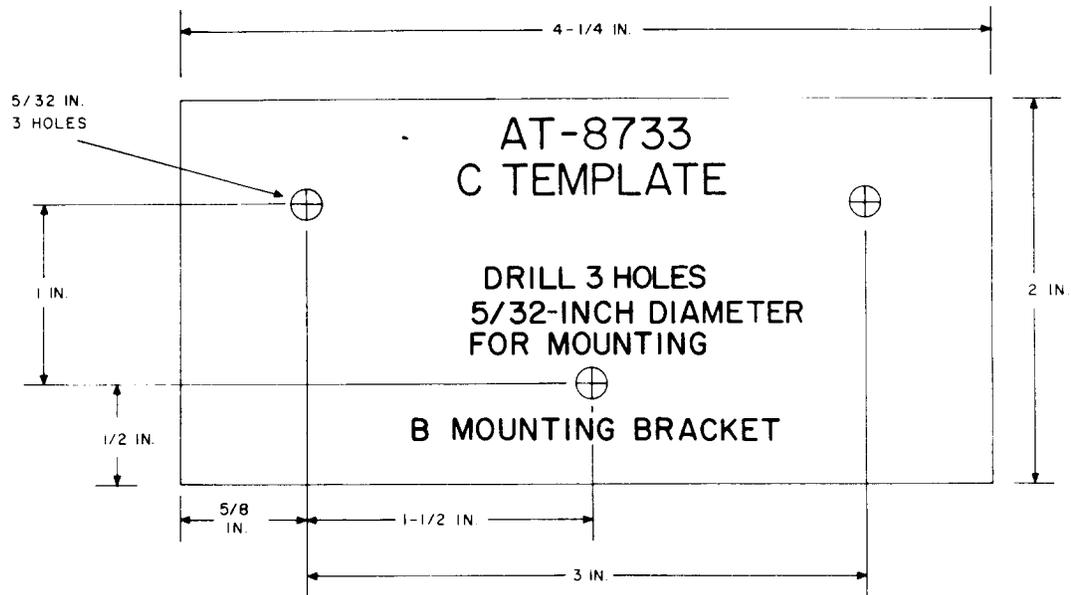

Fig. 17—C Template for Use on a Recreational Vehicle
(k) Template, C (for use on RV, Fig. 17).
2.13 The C template (Fig. 17) is used by the customer to locate the pilot holes on the recreational vehicle for the three thread cutting screws used to mount the B mounting bracket. The template is printed on index card stock and packed separately from the B mounting bracket so that mounting holes may be prepared prior to bracket installation. This template is not needed if the bracket is mounted using the stainless steel bands.
- One C template used to drill holes for mounting bracket on vehicle (Fig. 17)